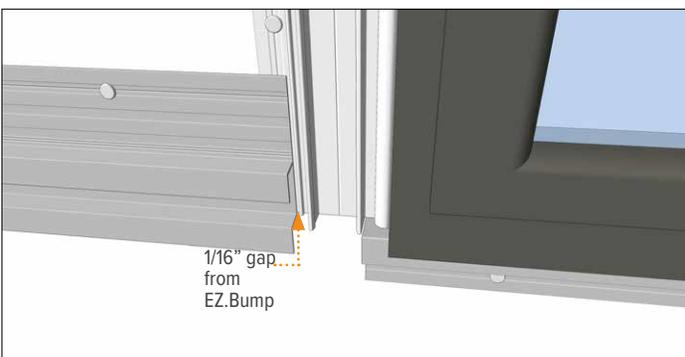

Figure 19.2
- At bottom of window apply an EZ.5 horizontal by lapping it over the EZ.19 nailing flange and leave a 1/16" gap from the EZ.Bump® and fasten. (Figure 19.2).